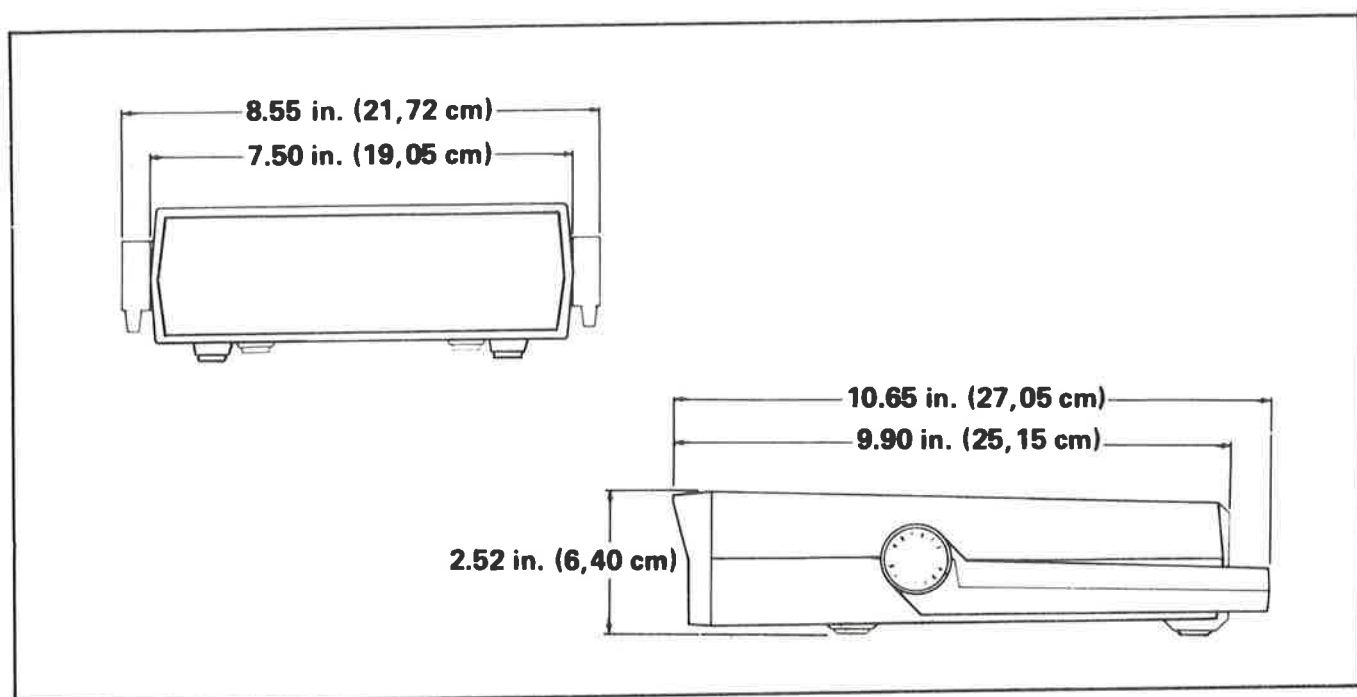

Figure 1-1. 2168A OUTLINE DRAWING
Size 2.52 in (H) x 8.55 in (W) x 9.9 in (D) (6.40 cm x 21.72 cm x 25.15 cm) See Figure 1-1.